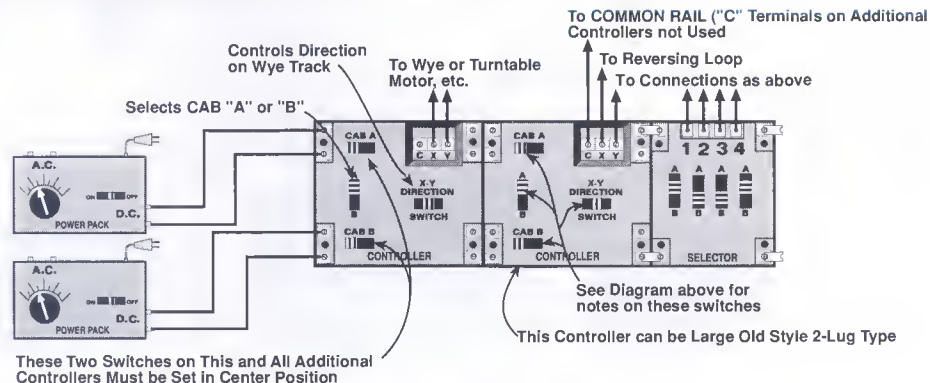

Fig. 2-8
d) **#220 - The Atlas Controller** is an electrical instrument that provides the proper operation of Reversing Loops. A reversing (or reverse) loop is a situation where the track goes around in a circle and comes back on itself in the opposite direction, as drawn in Fig. 2-8. This situation requires special wiring and operation which is discussed in the section titled "Reverse Loop Wiring." (P. 15) The Atlas Controller, Fig. 2-7, allows this wiring and operation to be accomplished easily.